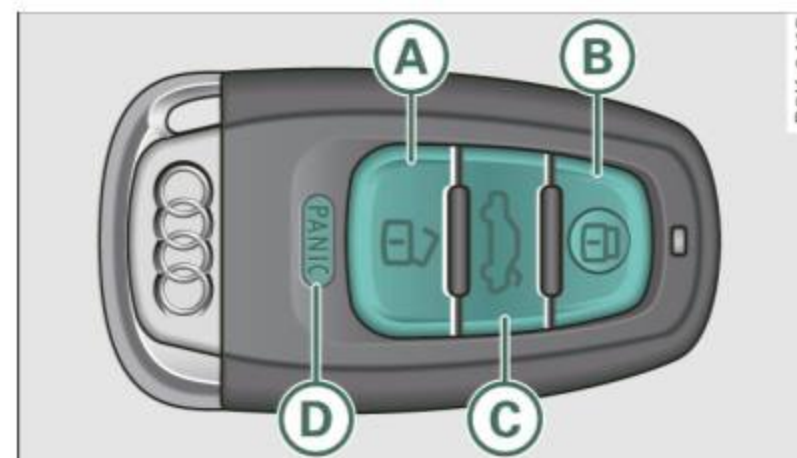

Fig. 33 Remote control: function buttons
If you switch **Trunk lid/tailgate On**, then the handle on the rear lid ⇒ *page 47*, fig. 40 is locked. In this case the rear lid can be opened with the button  on the master key ⇒ fig. 33 or with the unlocking button in the driver's door ⇒ *page 47*, fig. 39.
- Press button  (**A**) to unlock the vehicle ⇒ fig. 33.